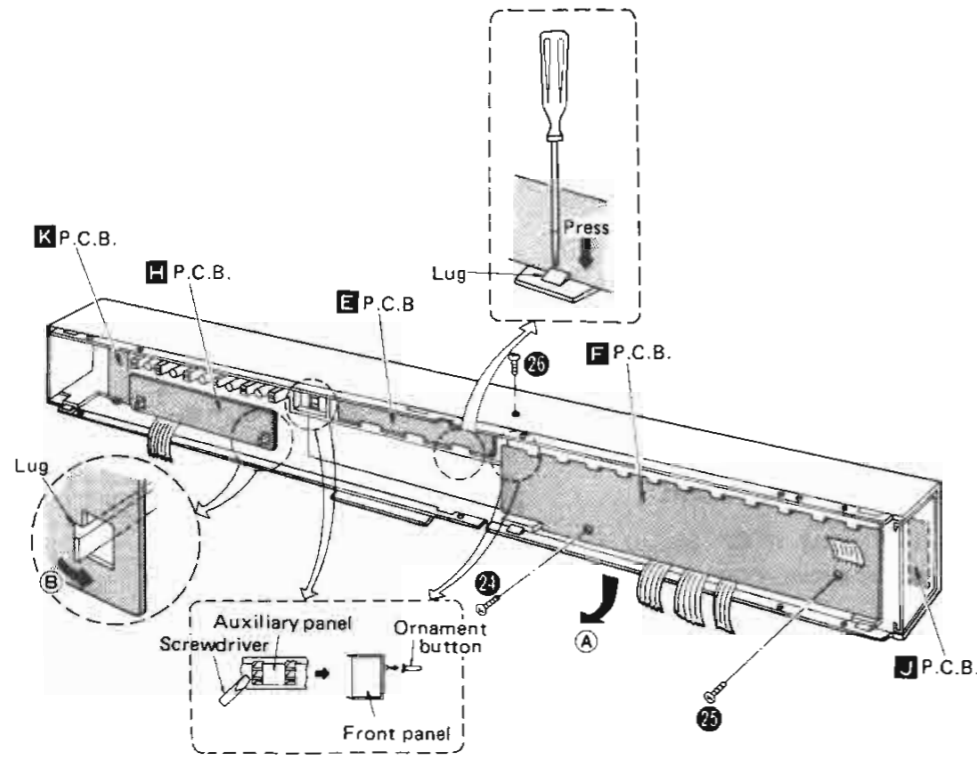

Fig. 4
2. Turn over the front panel as shown in Fig. 4.
3. Remove the 2 setscrews (24, 25 in Fig. 4) of the printed circuit board. Remove the board in the direction of the arrow (A).
Remove the printed circuit board by pressing the lugs (3 portions) with a screwdriver. (Fig. 4)
Remove the printed circuit board by shifting the lugs (2 portions) in the direction of the arrow (B). (Fig. 4)
Remove the printed circuit board in the same way as for **H** Printed circuit board. (Fig. 4)
3. Push the 2 ornament buttons with a screwdriver to remove them from the auxiliary panel (See Fig. 4).
4. Remove the setscrew (26 in Fig. 4) of auxiliary panel.